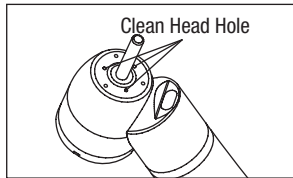

Fig. 4
- 1) Remove dirt and debris from the Clean Head Holes with the cleaning wire and brush (supplied as an accessory for the handpiece). (Fig. 4)